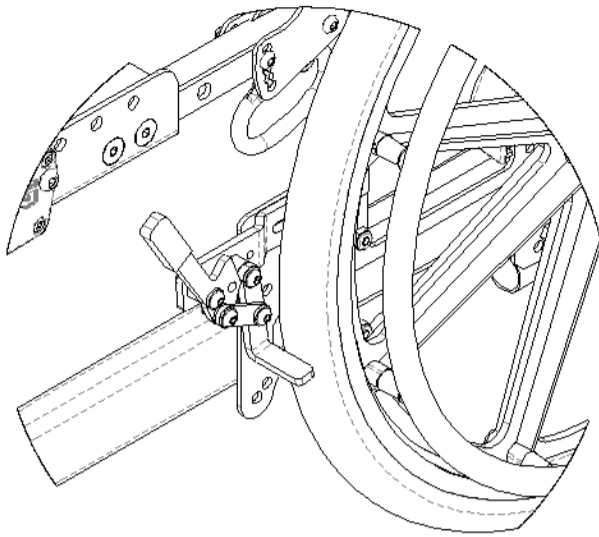

Figure 16.36: Push to Lock Wheel Locks (Standard)
1. To engage the push to lock wheel lock (see Figure 16.36), push the lever forward, away from the wheel, until it locks into place.